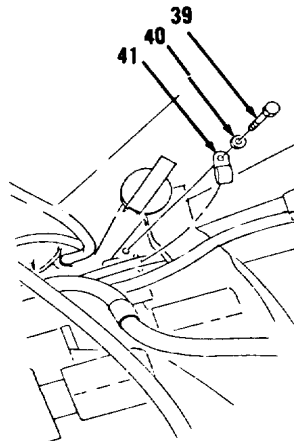

Figure 10-171.
18. Remove bolt (39), washer (40) and clip (41, Figure 10-171) from right side frame rail.